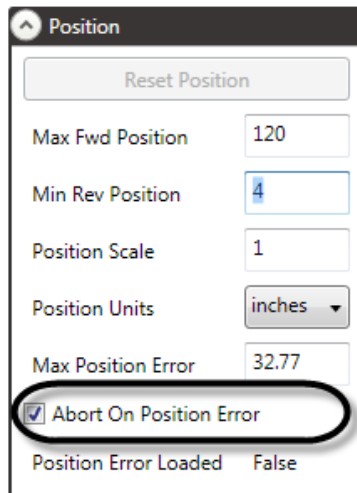

Figure 146
2. Check the **Abort On Position Error** option in the **Position** section of the **Stagehand Editing Pane** (Figure 146). If you like, you can tweak the value of the **Max Position Error** (this value is given in scaled position units such as inches or degrees, etc.).